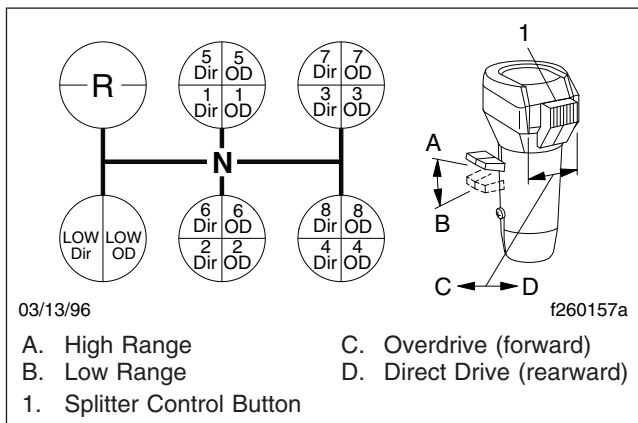

Fig. 14.2, Eaton Fuller 18-Speed Transmission Shift Pattern
Eaton Fuller 18-speed transmissions have eighteen forward speeds and four reverse speeds. Each transmission consists of a 5-speed front section and a 4-speed auxiliary section. The auxiliary section contains low- and high-range ratios, plus a splitter gear. See Fig. 14.2.
2. Position the range-preselection lever down, in low range and make sure the splitter-control button is in the low position. See Fig. 14.2.
drive (rearward) position (Fig. 14.2). Double-clutch into 1st gear.